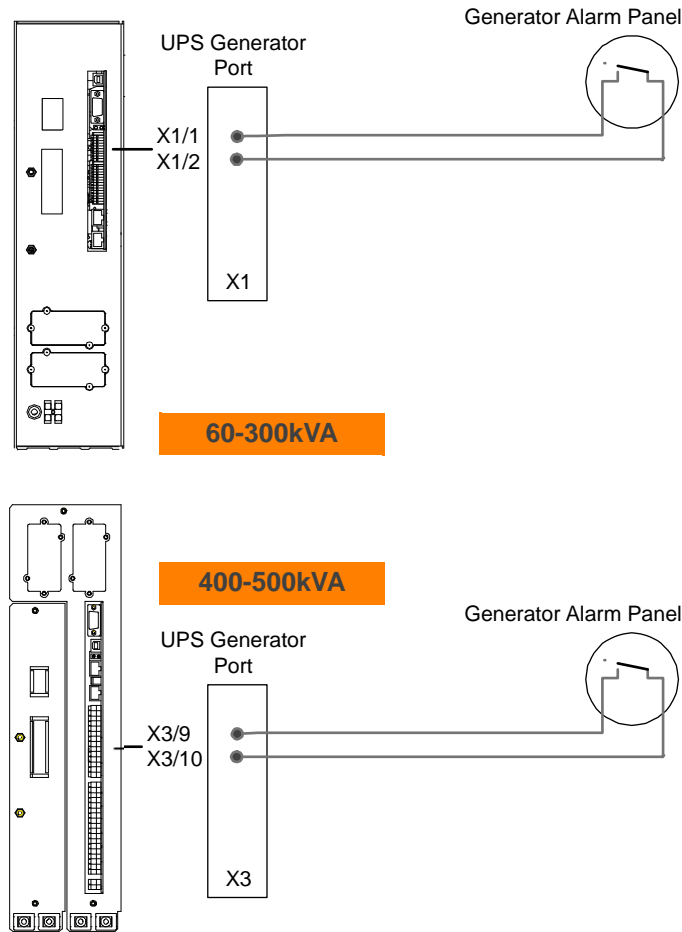

Figure 7.4 Generator ON Connection
2. Connect the cable as shown in Figure 7.4.